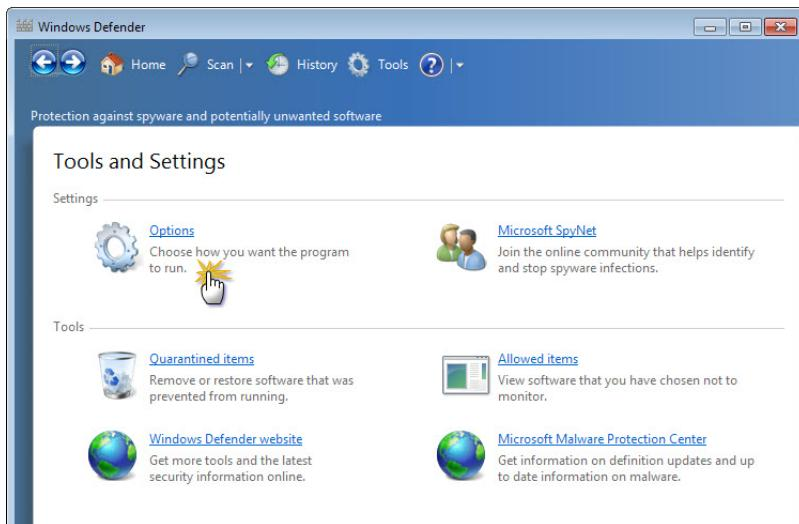

Figure 2-10. Deactivating Windows Defender (C)
- 3 In the dialog box that opens, click **Options** (Figure 2-10).